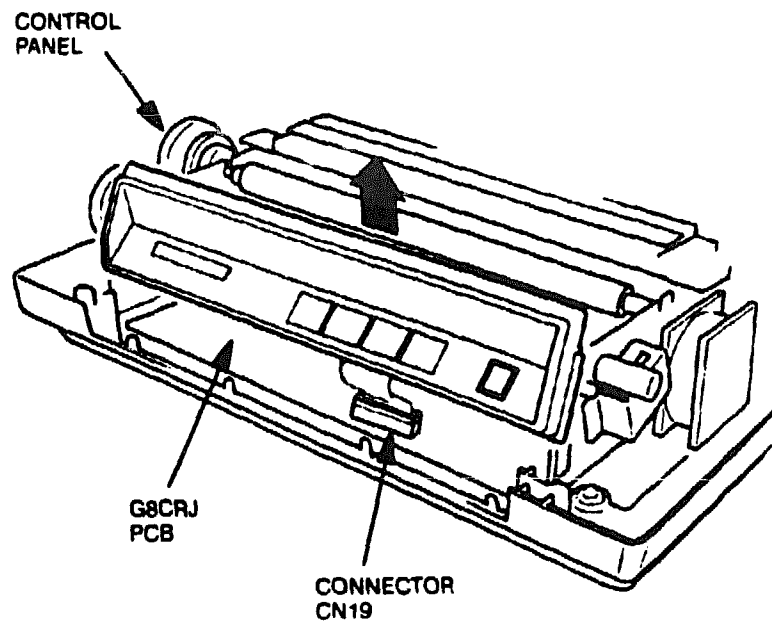

Figure 6-17 Control Panel Removal
5. Being careful not to stretch or damage to control panel cable, slowly and partially lift the control panel assembly straight up (see Figure 6-17).